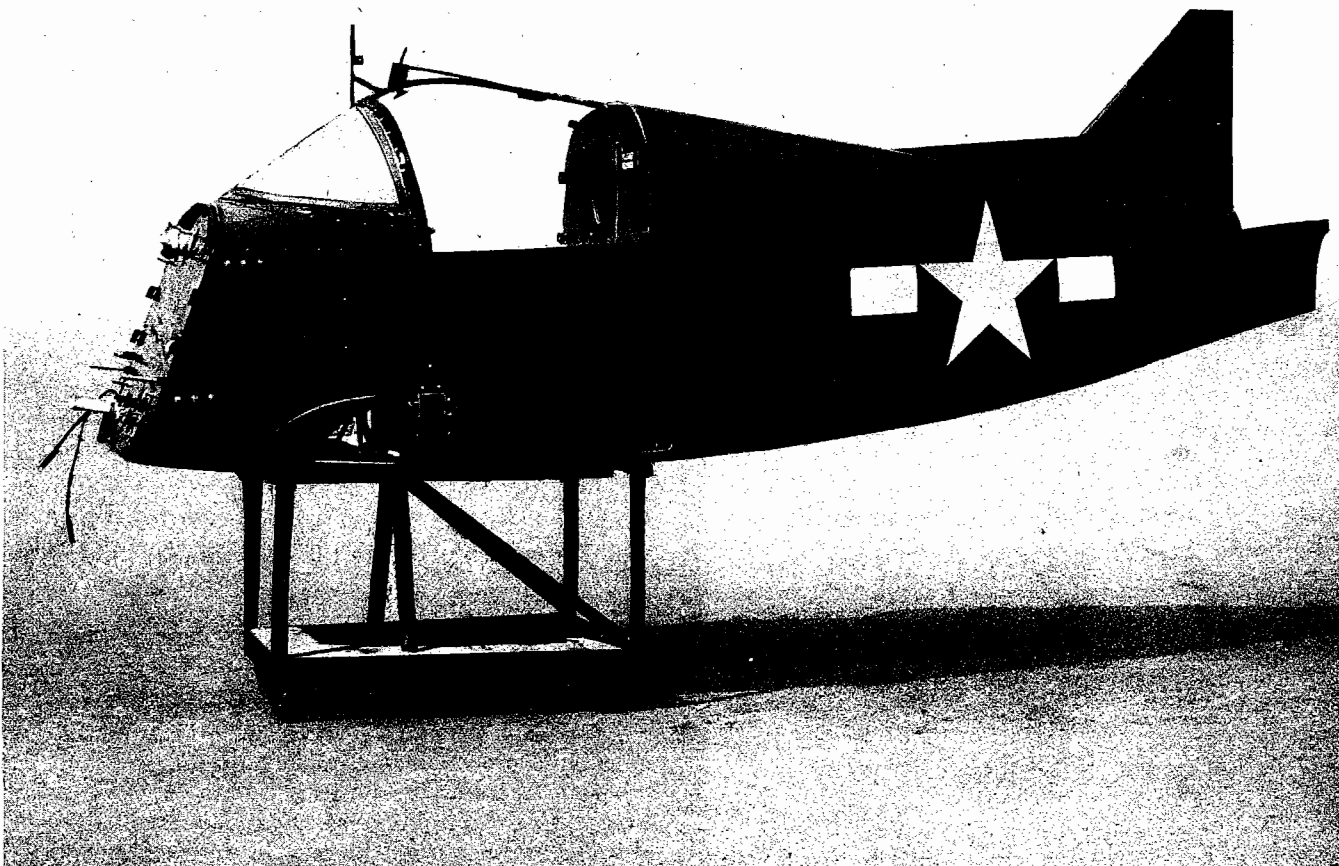

Figure 38—Fuselage
a. FUSELAGE. (See figure 38.)
(1) DESCRIPTION.—The fuselage is a semimonocoque wood structure with spruce longeron, spruce and mahogany plywood bulkheads, and stressed skin of mahogany or sweet gum plywood. A steel tube interconnection truss is provided for the attachment of the wing panel. This truss is located at station 18. The fire wall is a stainless steel sheet with a backing of fire-proof insulating material. Both the fire wall and backing of insulating material are attached to the front bulkhead. The seat is an integral part of the fuselage with provisions for the safety pilot on the left side and the servo control unit on the right. The windshield